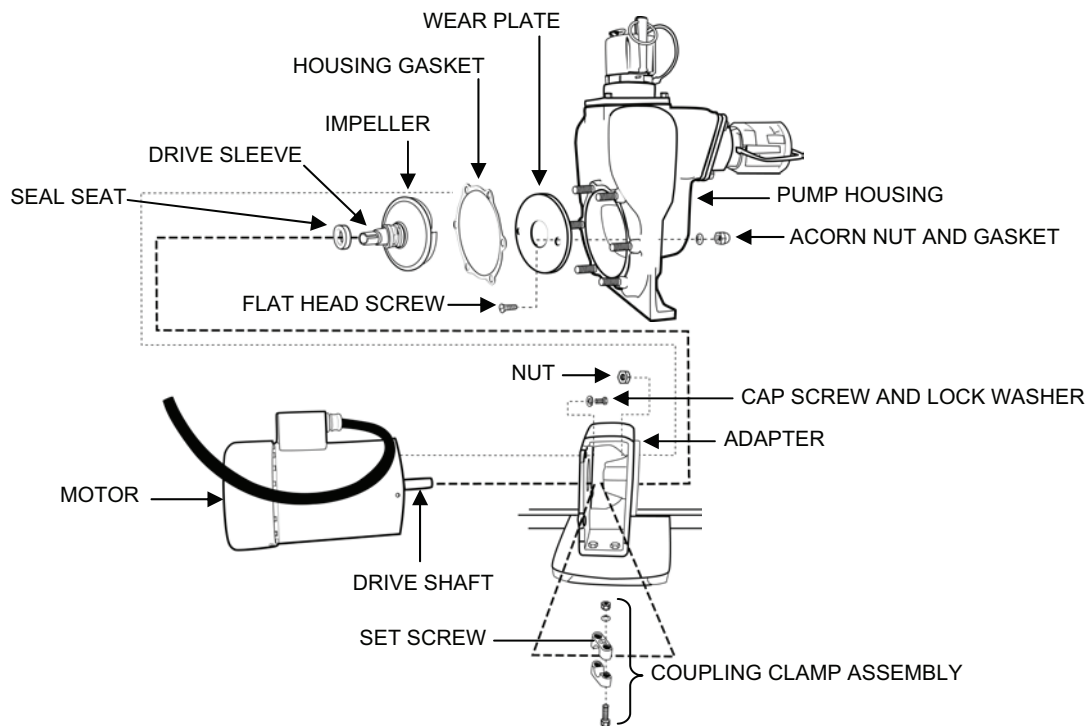

Figure 8. P-8 and P-7 Pump, Adapter, and Wear Plate Removal.
2. Remove the pump from the diesel engine (P-8 Pump skid) or remove the pump from the motor (P-7 Pump skid) as follows (see Figure 8):